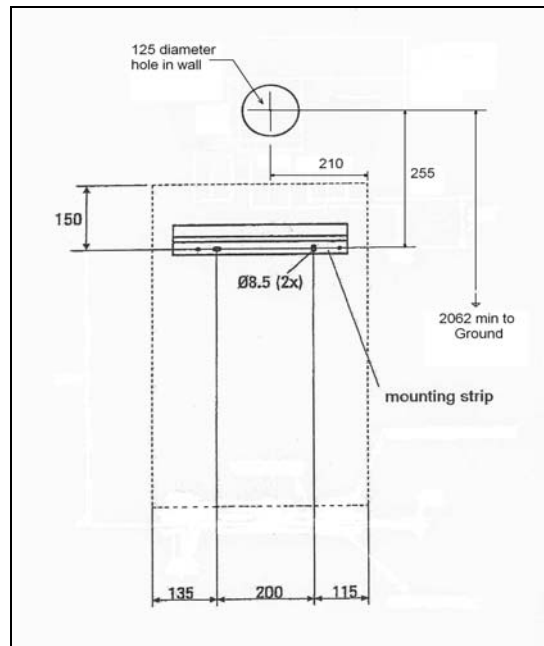

Figure 2
1. Drill horizontal hole of 125mm diameter through the wall at a centre height of 105mm above the top of the boiler (255mm above the fixing holes of the mounting strip – see Fig 2).